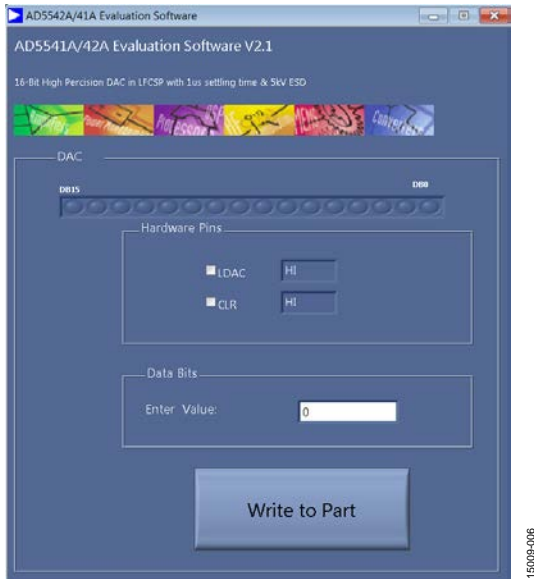

Figure 6. **AD5541A/42A Evaluation Software V2.1** Window
6. The **AD5542A/41A Evaluation Software** window opens, as shown in Figure 6.
The **AD5542A/41A Evaluation Software** main window is shown in Figure 6. The data programmed into the 16-bit input shift register displays.